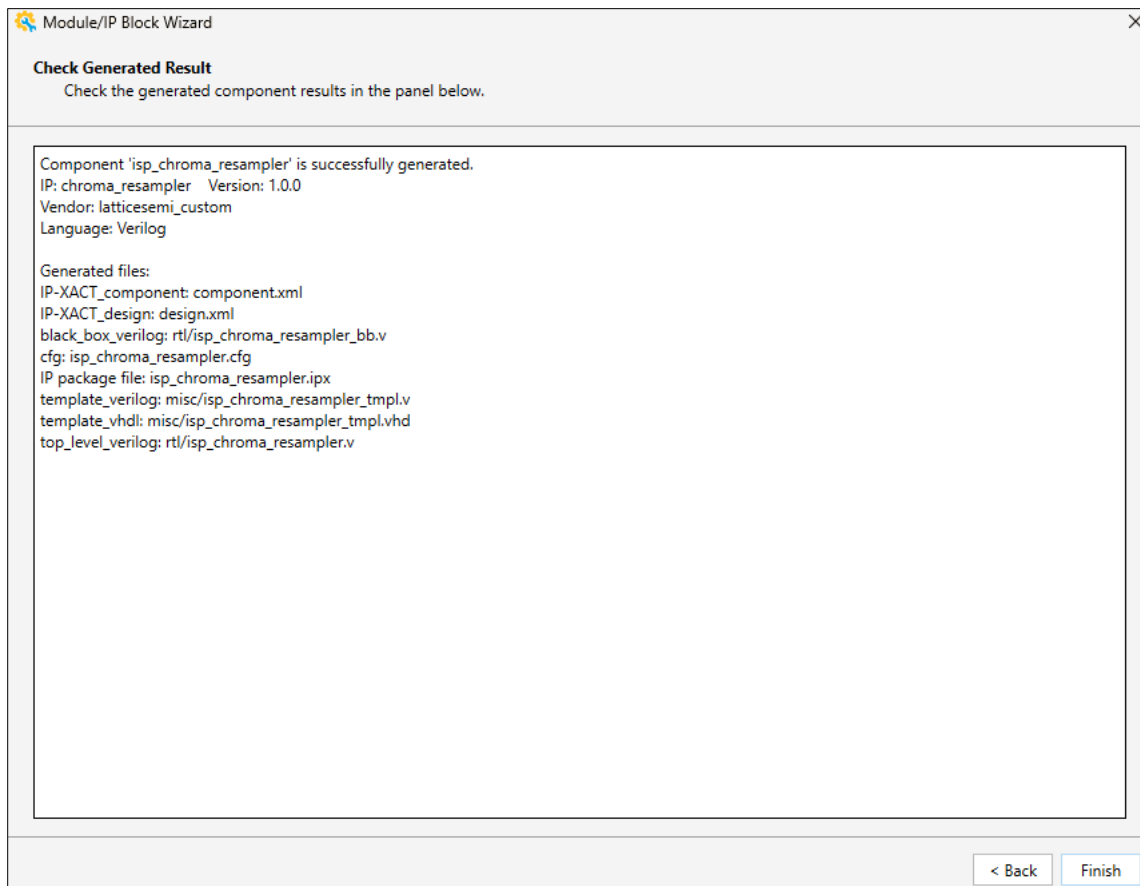

Figure 7.27. Chroma Resampler IP Check Generated Result Window
4. After the generation is completed, click **Finish** in the **Check Generated Result** window (Figure 7.27).